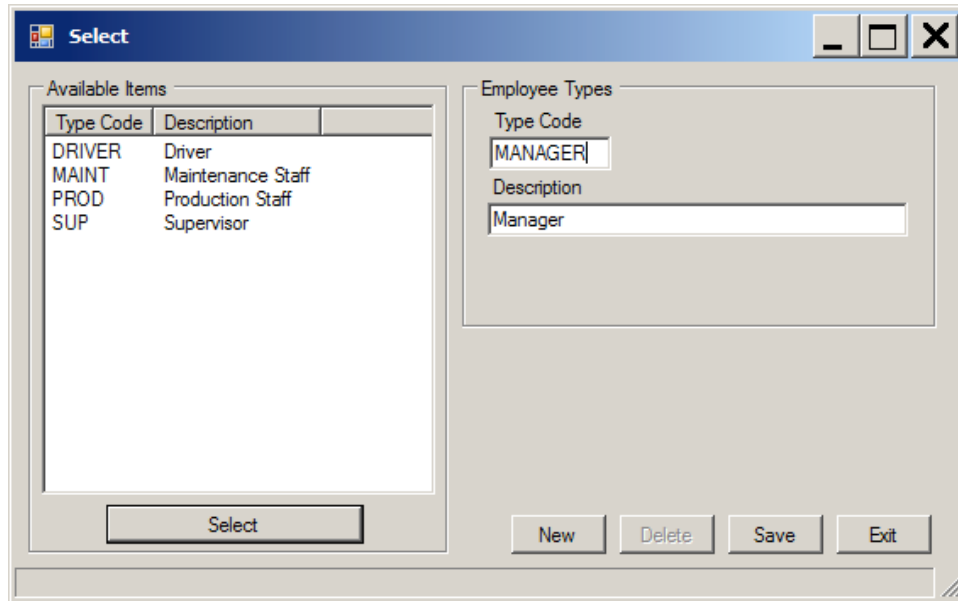

Figure 35. Select Type Dialog.
3. Click the button **>>** to the right of the **Type** field on the *Employee Details* dialog. This opens the *Type Selection* dialog window (see Figure 35).
2. Press **Select** (see Figure 35).
You can also create a new employee type using the *Select* dialog box (Figure 35).